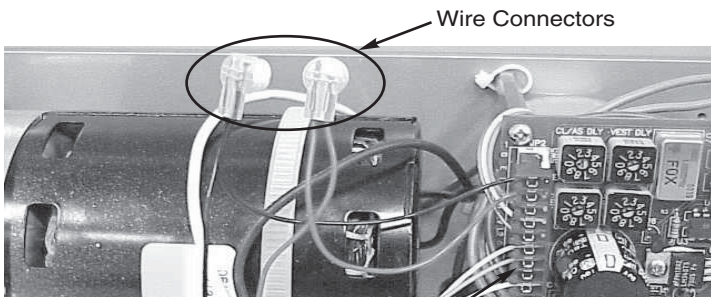

Fig. 4
8. Splice the two remaining RED and BLACK wires of the ELS wiring harness with the RED and BLACK wire removed from the shrink tube in step 1. Splice the RED to RED and the BLACK to BLACK using the two wire connectors supplied with the ELS Upgrade Kit. Slip Joint Pliers or similar tool will be required to seat the connector button. Button should be FLUSH with connector when properly seated. Fig. 4